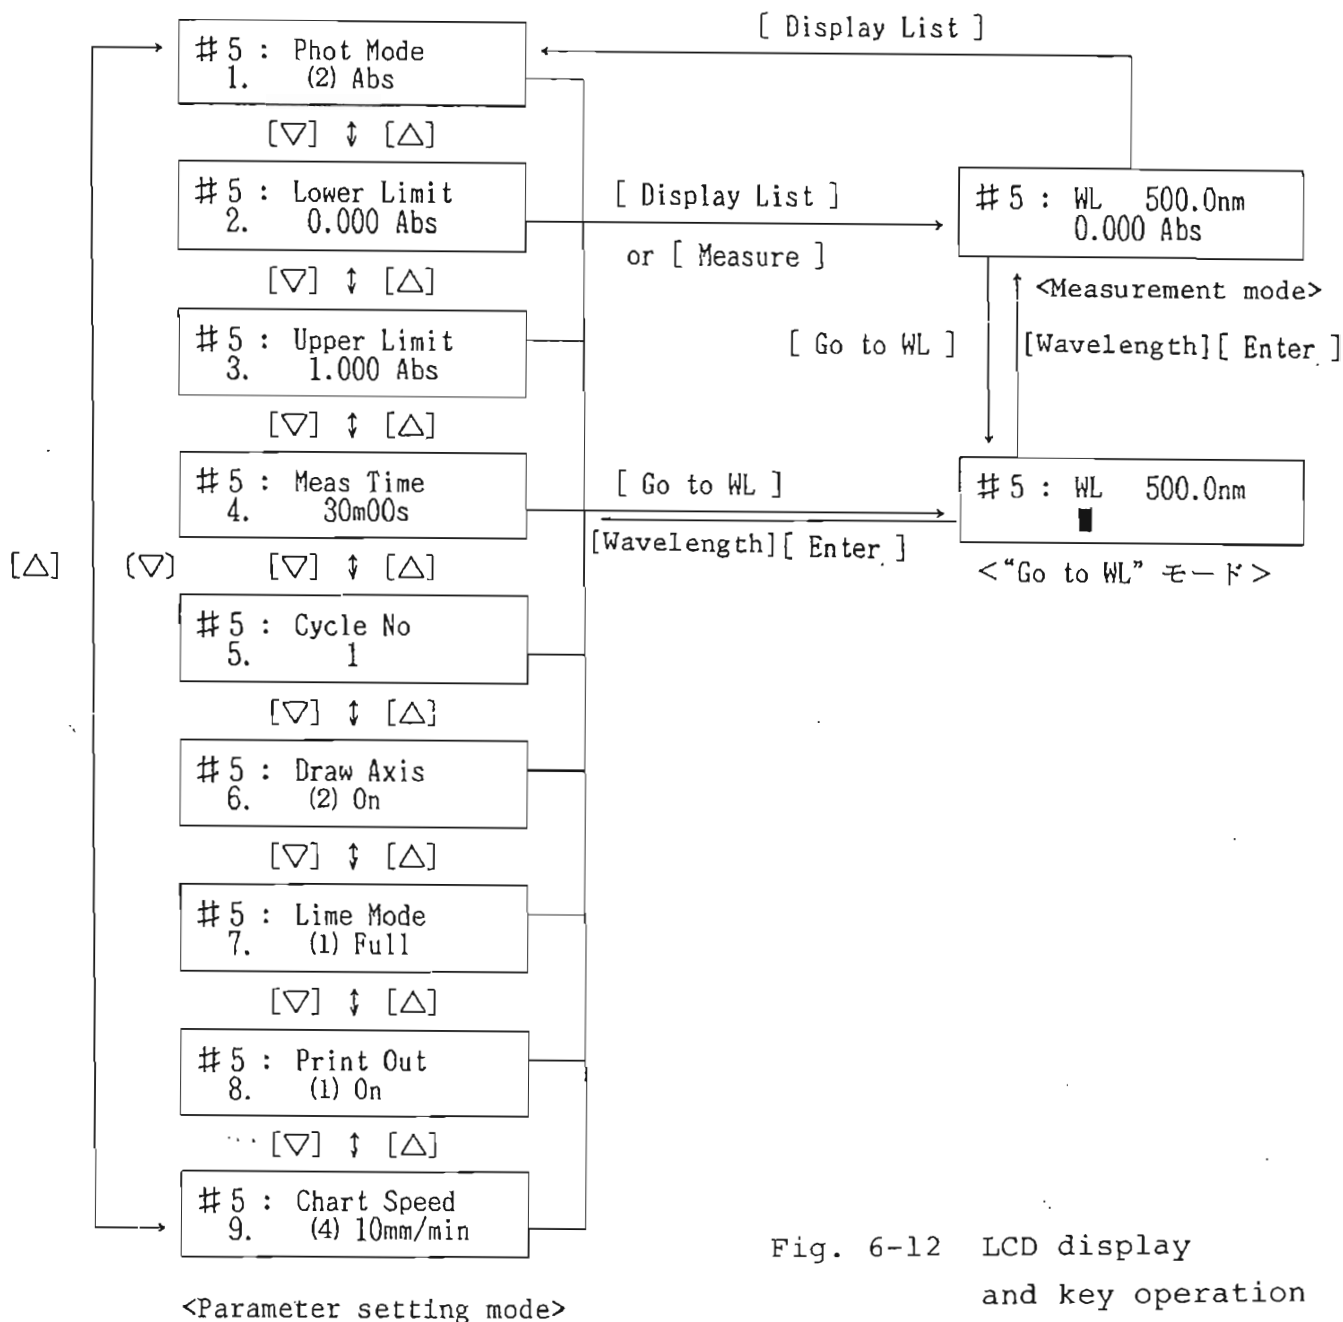

Fig. 6-12 LCD display and key operation in Method 5.
Pressing keys [Method][5][Enter] causes the parameter setting mode of Method 5. Fig. 6-12 shows the LCD display and key operation in Method 5.
- (2) In the parameter setting mode in Fig. 6-12, check and change the parameters. Press the cursor key [ $\Delta$ ] or [ $\nabla$ ] to change the LCD display as shown in the figure, and check the displayed value. For how to change, refer to Section 7.
NOTE: The measurement parameters are set as shown in Fig. 6-12 as standard.
- (3) Set the measurement wavelength by the following key operation. Fig. 6-12 shows how the LCD display changes when keys are operated.